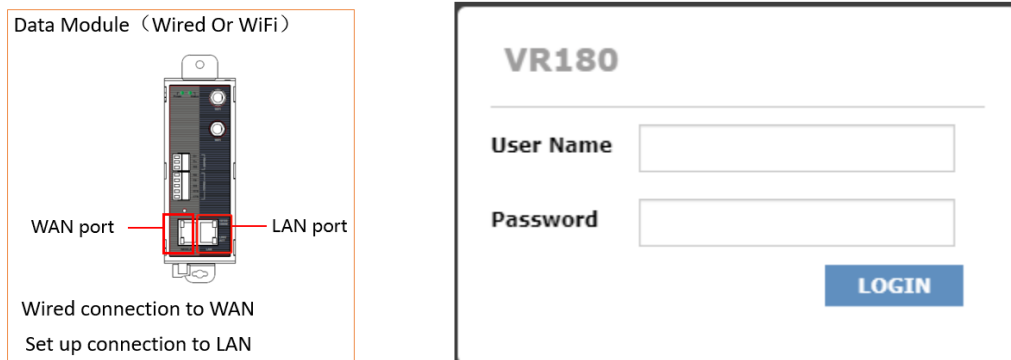

Figure. 4.4
(2) Connect the LAN port of the control box to the network port of the PC through the RJ45 network port connector (8P), open Google Chrome and enter the URL 192.168.5.5, user name: user, password: password (Fig.4.4).